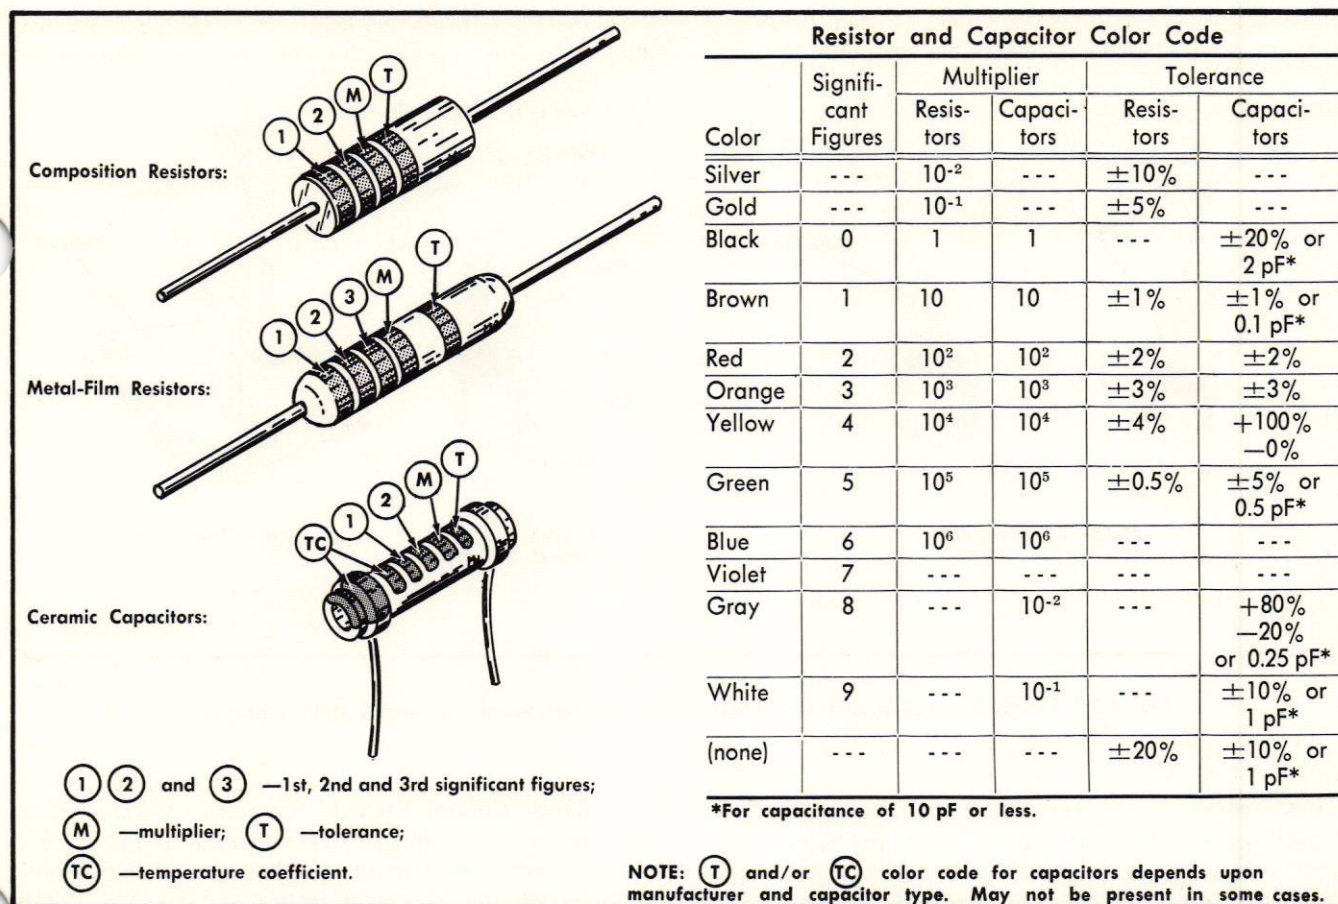

Fig. 4-1. Color-code for resistors and ceramic capacitors.
**Resistor Color-Code.** In addition to the brown composition resistors, some metal-film resistors and some wire-wound resistors are used in the Type 321A. The resistance values of wire-wound resistors are printed on the body of the component. The resistance values of composition resistors and metal-film resistors are color-coded on the components with EIA color-code (some metal-film resistors may have the value printed on the body). The color-code is read starting with the stripe nearest the end of the resistor. Composition resistors have four stripes which consist of two significant figures, a multiplier and a tolerance value (see Fig. 4-1). Metal-film resistors have five stripes consisting of three significant figures, a multiplier and a tolerance value (see Fig. 4-1). Metal-film resistors have five stripes consisting of three significant figures, a multiplier and a tolerance value.
**Capacitor Marking.** The capacitance values of common disc capacitors and small electrolytics are marked in microfarads on the side of the component body. The white ceramic capacitors used in the Type 321A are color-coded in picofarads using a modified EIA code (see Fig. 4-1).